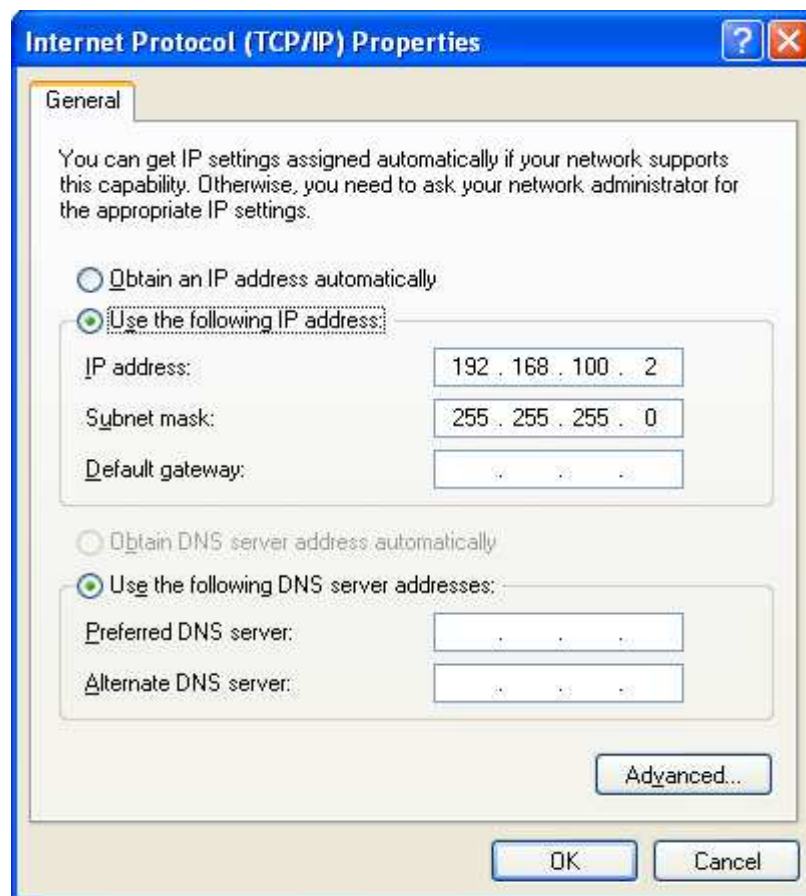

Figure A.2 - Internet Protocol Properties
5. Select "Use the following IP address", Refer to Figure A.2.